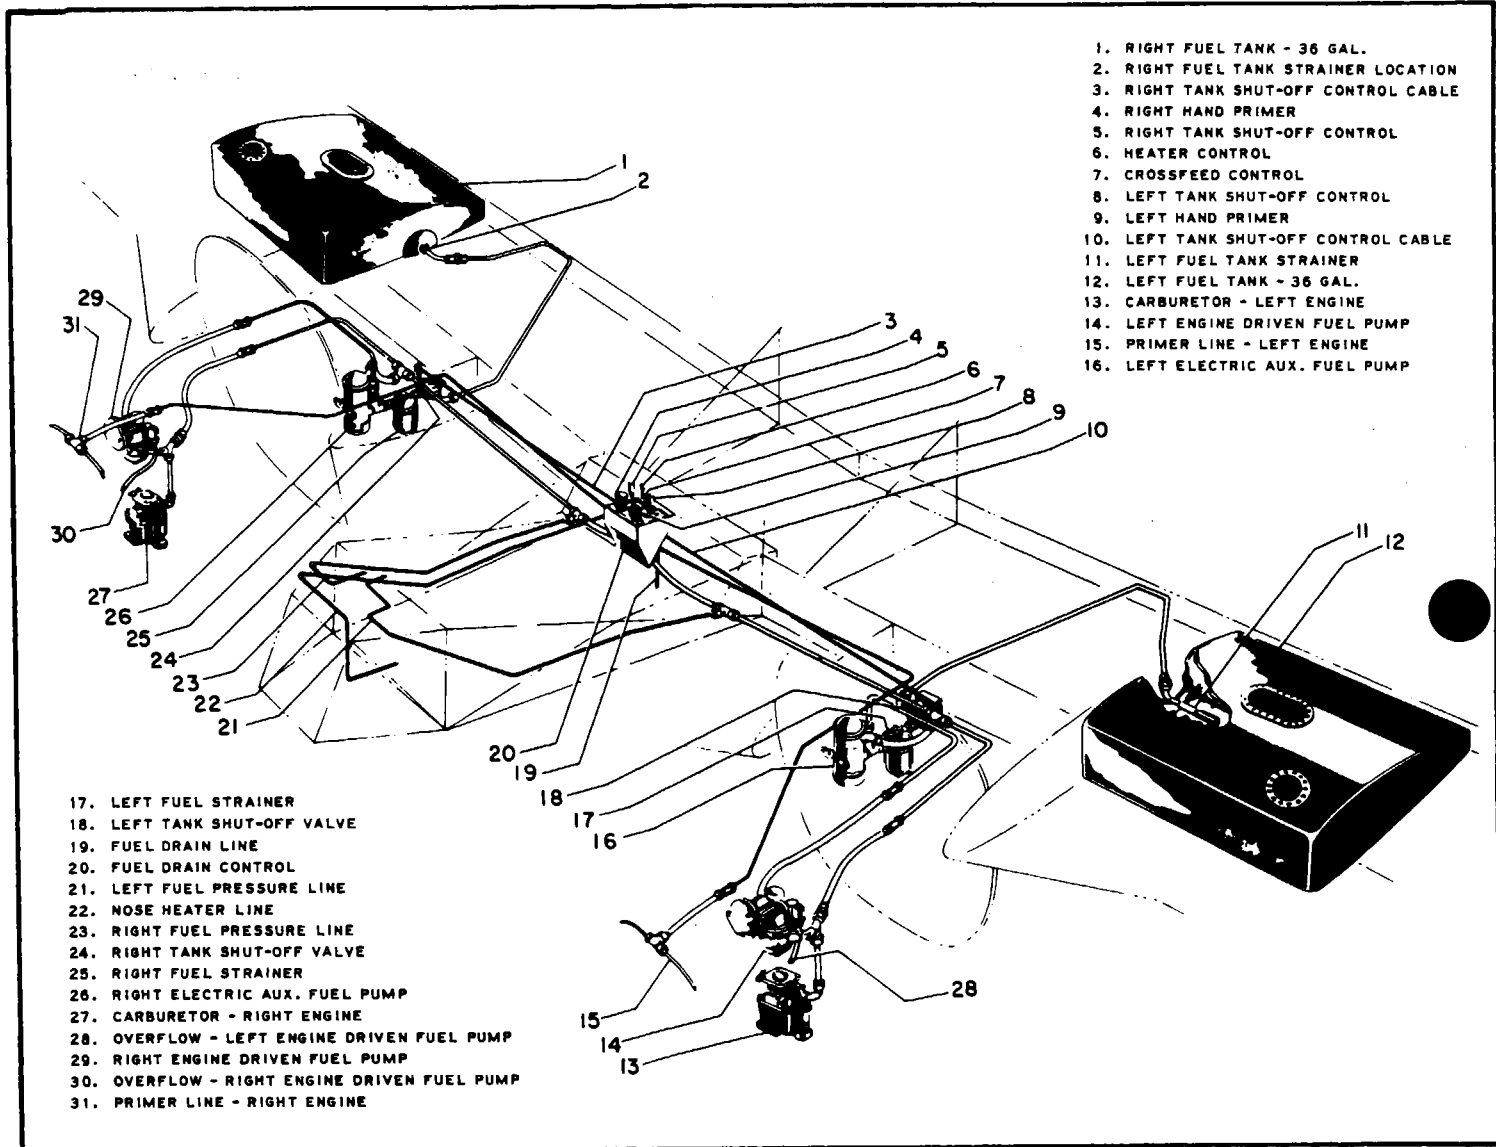
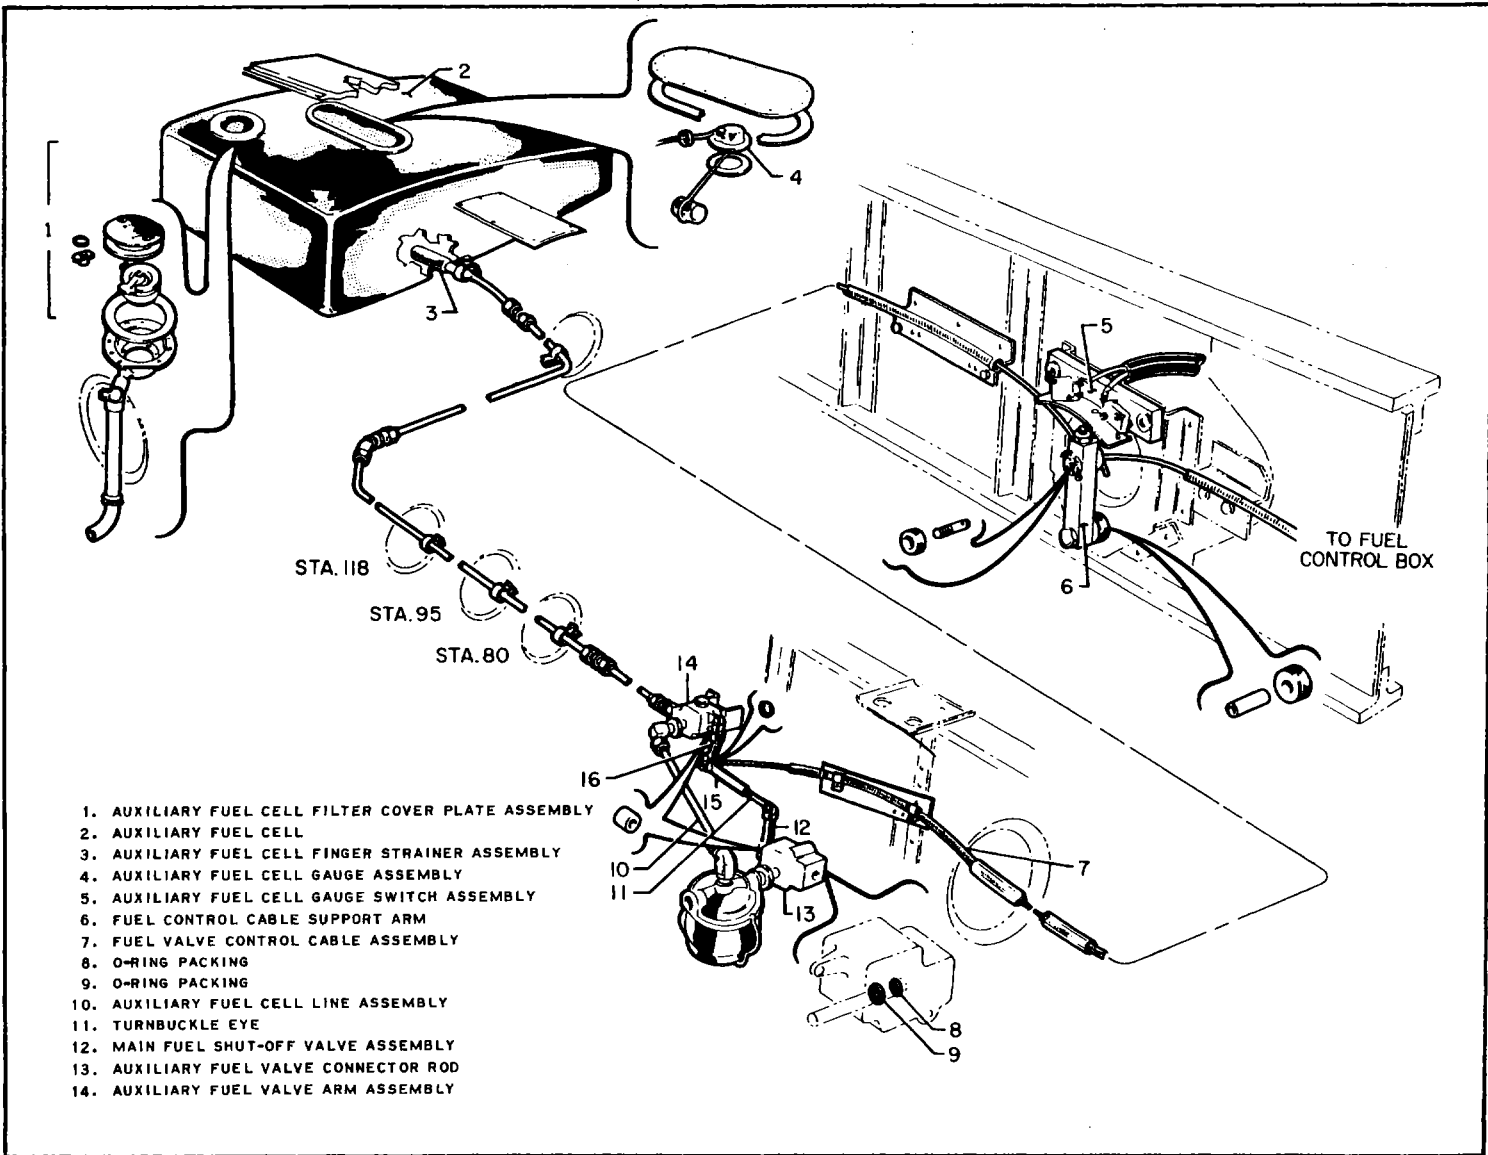
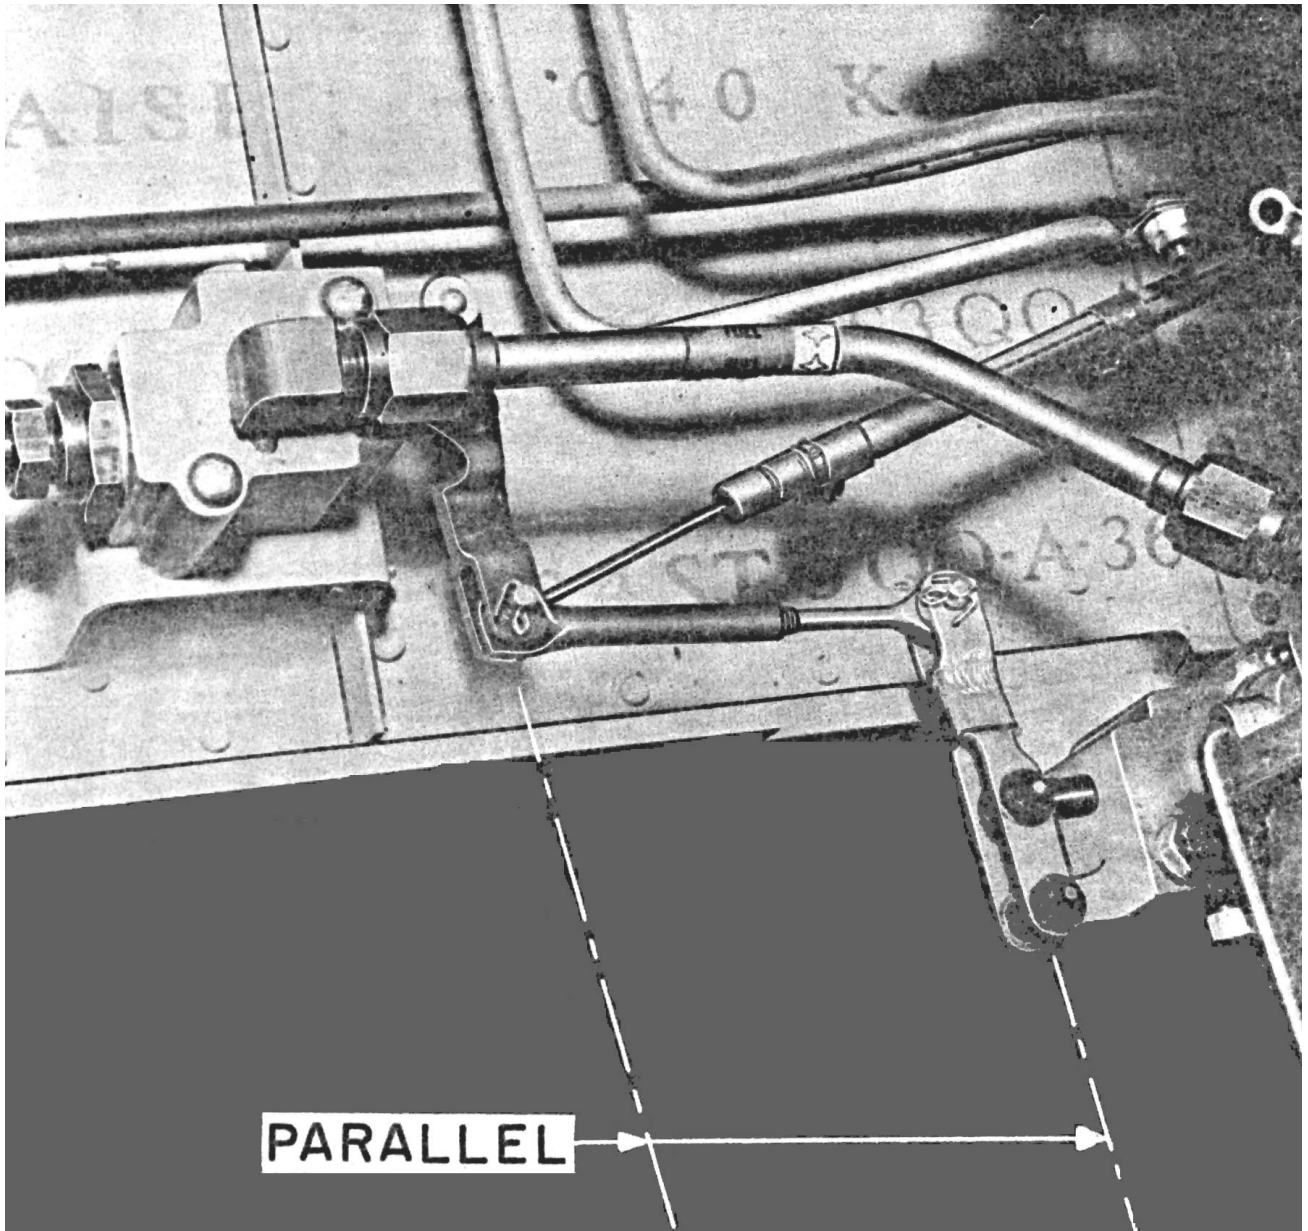

Figure 9-1. Main Fuel System
Figure 9-2. Auxiliary Fuel System
Figure 9-3. Parallel Relation of the Fuel Valve Control and Auxiliary Fuel Valve Arm Assemblies in the "OFF" Position
9-2. The Apache fuel system installation (Figure 9-1) includes an auxiliary system. Because of this, an auxiliary fuel system illustration (Figure 9-2), and facts pertinent to the system, are presented in this section with the main system data. To secure a complete auxiliary fuel system for an aircraft where such a system does not exist, contact your distributor and request Kit No. 754 058. This item is complete in materials and instructions for obtaining a proper installation. Later manufacture provides drilled attaching points whether the system is incorporated or not. In these instances, some of the installation procedures can obviously be ignored. Troubles peculiar to the Apache fuel system are listed in troubleshooting Table IX-I, along with probable causes and remedies.
9-5. MAIN FUEL SYSTEM. Refer to Figure 9-1 for the layout and relationship of the various fuel system components. Replace a fuel cell in accordance with the instructions of paragraphs 9-10 and 9-17.
9-6. AUXILIARY FUEL SYSTEM. The items comprising the auxiliary fuel system are shown in Figure 9-2. Refer to this illustration as a guide for removal and installation. In addition, refer to paragraph 9-7 for general practices regarding fuel cells.
- b. Observe the fuel valve control arm assembly (12, Figure 9-2) and the auxiliary fuel valve arm assembly (16), noting if they are parallel to each other. (Refer to Figure 9-3.)